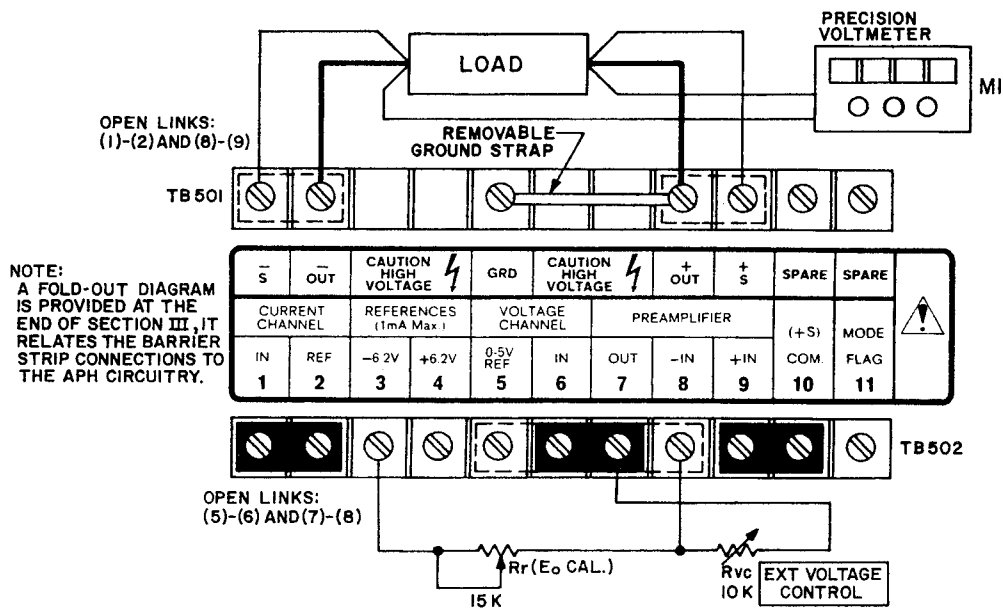

FIG. 3-4 CONNECTIONS FOR APH OUTPUT VOLTAGE CONTROL WITH A TWO-TERMINAL RESISTANCE.
- 1) Connect the selected feedback resistor ( $R_f =$  EXTERNAL VOLTAGE CONTROL), the reference resistor ( $R_r$ ). Note: Make part of  $R_r$  adjustable for  $E_O$  CAL. control), the LOAD and the OUTPUT VOLTMETER (M1) to the APH as shown in FIG. 3-4. NOTE: FOR INTERCONNECTION DETAILS AND PRECAUTIONS, TURN TO THE "WARNING" PARAGRAPH ON PAGE 3-4.